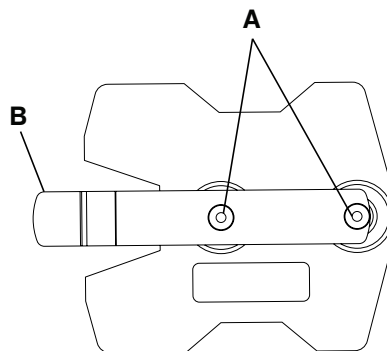

Figure 28 – Mounting bracket
To install the mounting bracket (Figure 28):
1. Use the **SMRT** charger mounting bracket as a template to mark the location of the mounting holes (A) at the area where you will install the mounting bracket.
- a. Spring tab (B) is located at the rear of the **SMRT** charger.
**Note** - When mounting the bracket to a vertical surface, the spring tab should be horizontal with the spring tab point to the left (Figure 28).